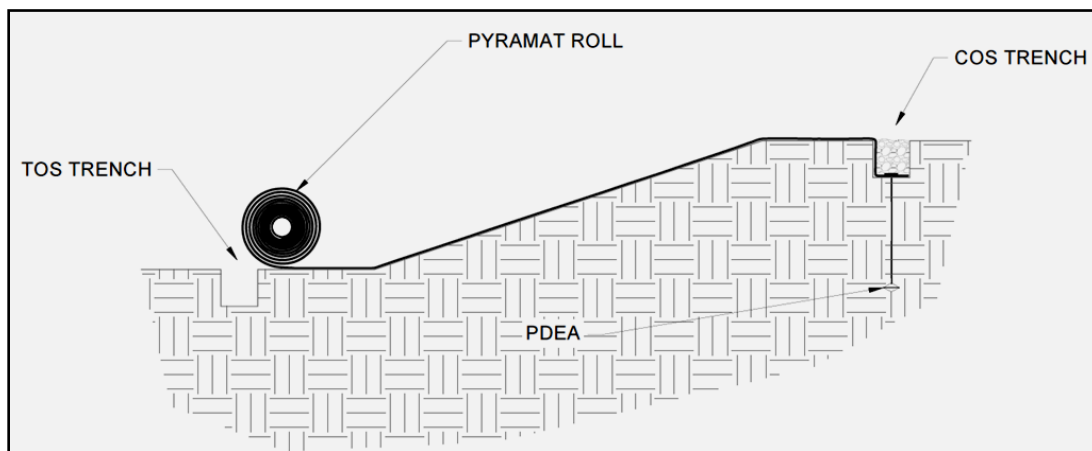

Figure 15: Placement of Pyramat across Slope
5. Unroll the Pyramat roll on the slope surface in the area to be armored (Figure 15). Ensure that Pyramat has intimate contact with the ground and all irregular surfaces beneath Pyramat are removed.